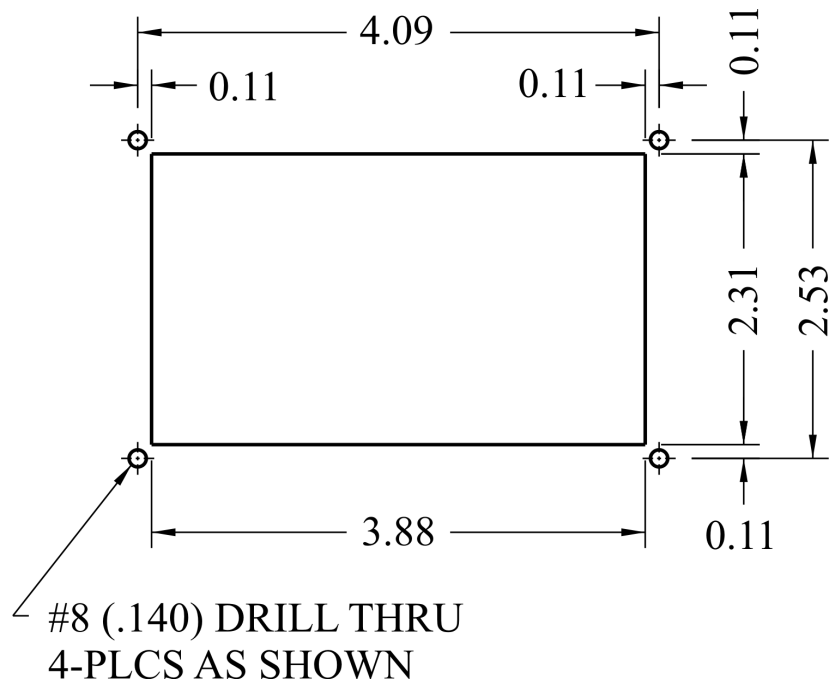

Figure 11
- Mark panel cutout and mounting screw pattern per dimensions in Figure 11.
- Insert cable connector, cable and switches through panel cutout. Secure unit to panel with four (4) #8-32 type "F" thread cutting screws.